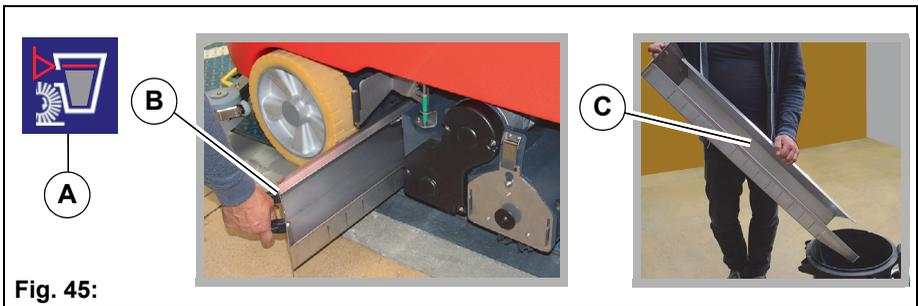

Fig. 45:
Empty the dirt hopper at the latest when the *Dirt hopper full* **Fig. 45-A** symbol appears on the multifunction display.
3. Use the handle to remove the dirt hopper **Fig. 45-B**.
4. Empty the dirt hopper **Fig. 45-C**.